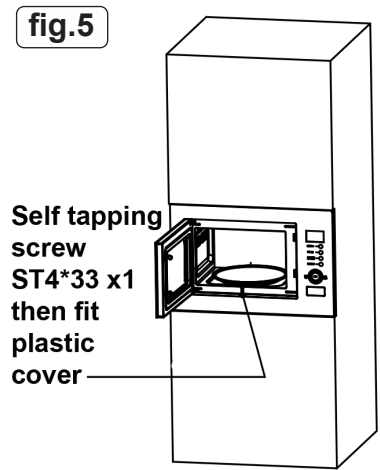

fig.5
- e) Open the door, then fix it with screws, as shown in Fig.5. Install the plastic cover over the screw hole.